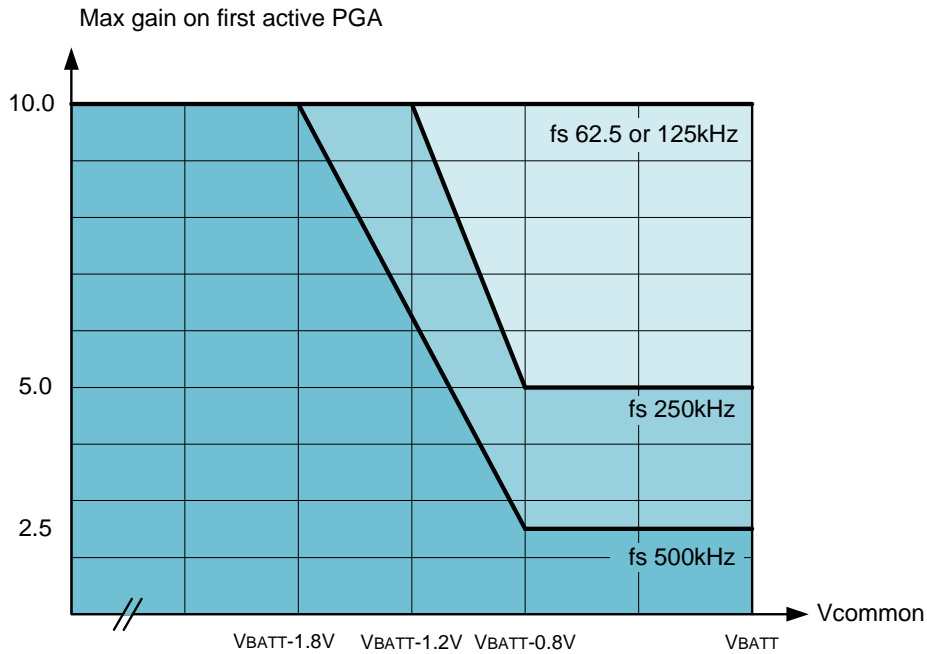
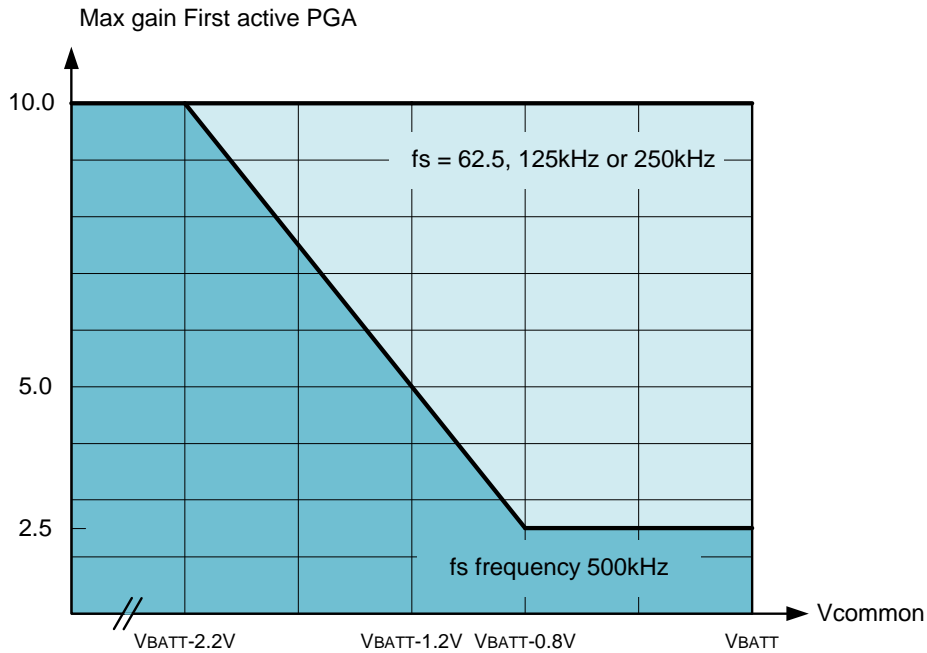

Figure 11. Common mode input range on PGA for  $V_{BATT}$  below 4.2V
Figure 12. Common mode input range on PGA for VBATT above 4.2V
**Figure 11** and **Figure 12** illustrates the limits for the maximal conversion precision according to the common mode voltage ( $V_{COMMON}$ ), the *ADC* over-sampling frequency ( $f_s$ ) and *PGA* gains. The best linearity performances can be
obtained only below these limits, as depicted in Figure 11 if the supply voltage ( $V_{BATT}$ ) is below 4.2V and as depicted in Figure 12 if the supply voltage ( $V_{BATT}$ ) is above 4.2V.